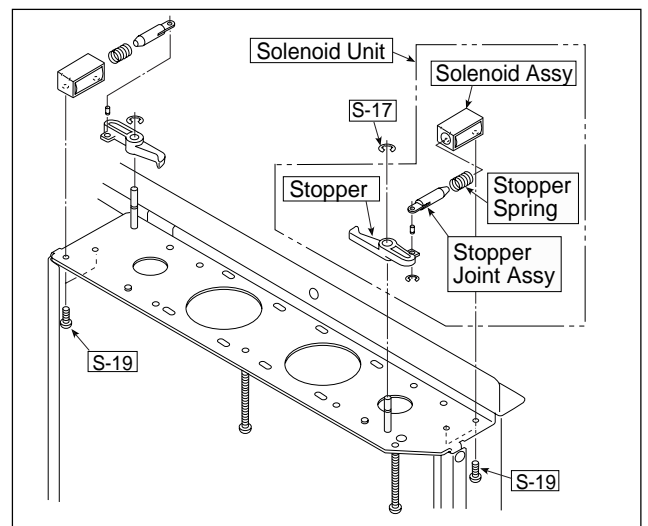

Fig. 14
10) Remove the Solenoid Assy. (See Fig. 14.)
1. Remove the "S-19" screws shown in Fig. 14 and then remove the Solenoid Assy.
2. Remove the "S-17" E-rings shown in Fig. 14 and then remove the Stopper.